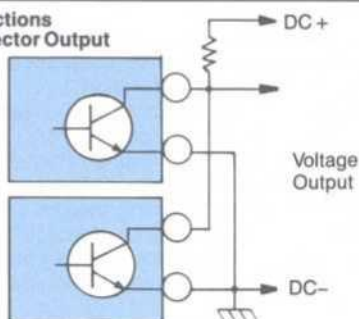

FIG. 25
(A) for OR operation, connect each scanner so that when it detects the target, its amplifier is energized. Connect the amplifier outputs together as in Fig. 25. If any one scanner causes its amplifier to energize, the output voltage goes to zero.
(B) for AND operation, connect each scanner so that when it detects the target, its amplifier is de-energized. Connect the amplifier outputs as in Fig. 25. If all scanners cause their amplifiers to de-energize, the output voltage goes high to DC +.